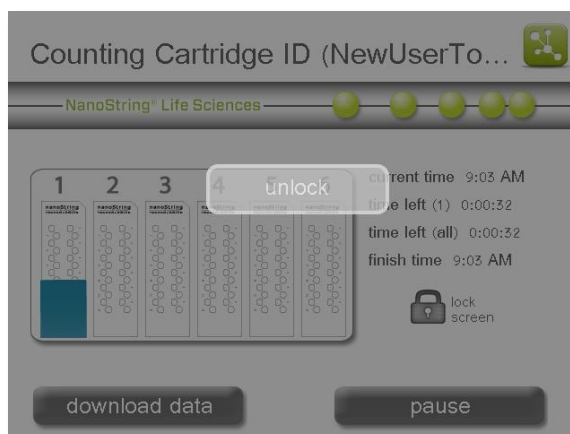

Figure 91: The 'Counting Cartridge ID' screen when it is locked.
12. If the Enterprise Package has been configured to require user login (see the Enterprise Package section), then the screen will dim and lock automatically after a run begins (**Figure 91**).